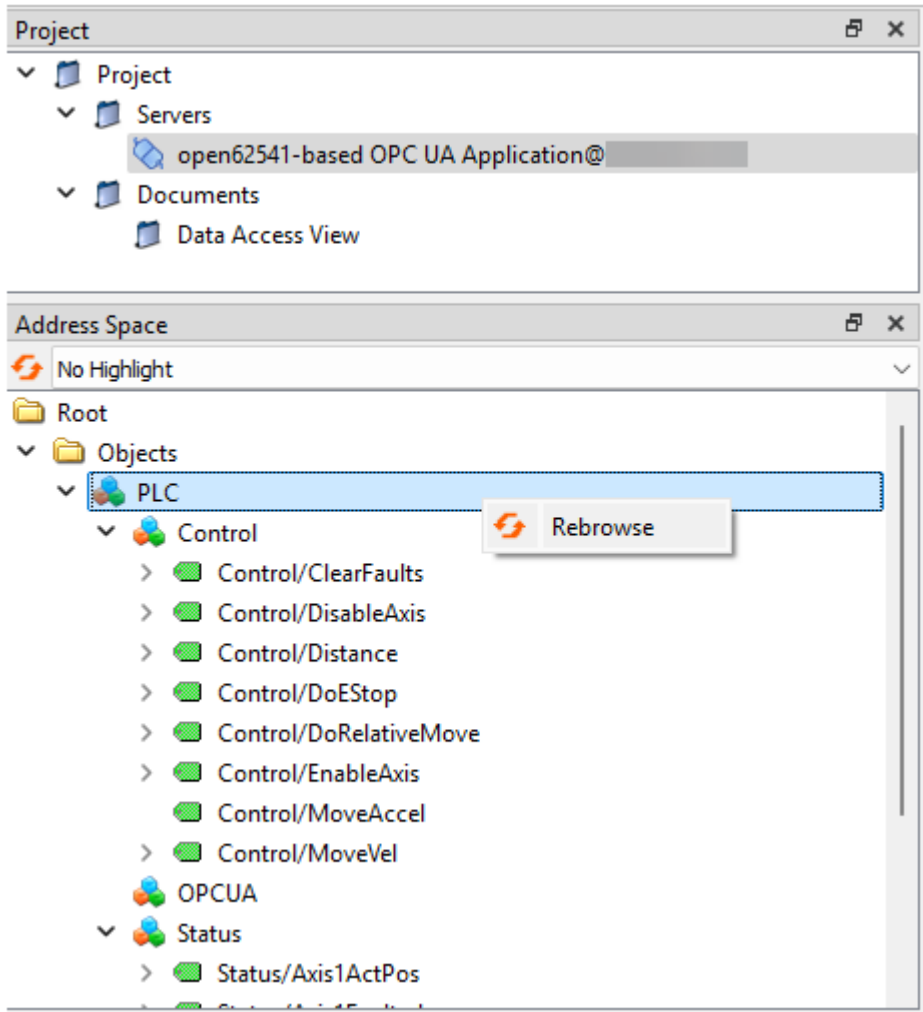

Figure 3-19: Rebrowse option
14. Select the PLC object and right-click to use **Rebrowse**. (Figure 3-19)